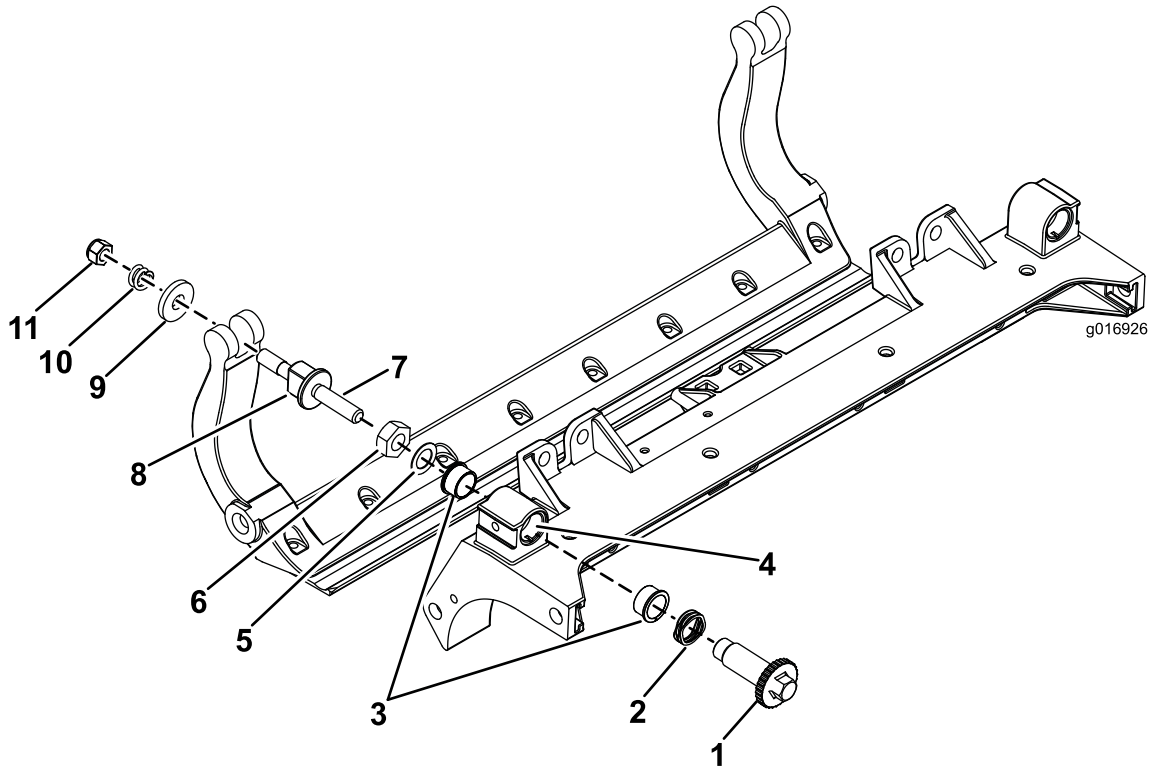

Figure 33
1. Remove all parts (refer to *Installation Instructions* for HD DPA Kit Model No. 120–7230 and to Figure 33).
2. Apply Never Seize to the inside of the bushing area on cutting unit center frame (Figure 33).
3. Align the keys on flange bushings to the slots in the frame and install the bushings (Figure 33).
4. Install a wave washer onto the adjuster shaft and slide the adjuster shaft into the flange bushings in the cutting unit frame (Figure 33).
5. Secure the adjuster shaft with a flat washer and lock nut (Figure 33). Torque the lock nut to 15 to 20 ft-lb (20 to 27 N-m).
9. Secure the bedbar to each side plate with the bedbar bolts (nuts on bolts) and 6 washers. A nylon washer is to be positioned on each side of side plate boss. Place a steel washer outside each of the nylon washers (Figure 33). Torque bedbar bolts to 27-33 ft.-lb (37-45 N-m). Tighten locknuts until the outside steel washer stops rotating and end play is removed but do not overtighten or deflect side plates. Washers on inside may have a gap (Figure 33).
10. Tighten the nut on each bedbar adjuster assembly until the compression spring is fully compressed, then loosen nut 1/2 turn (Figure 33).